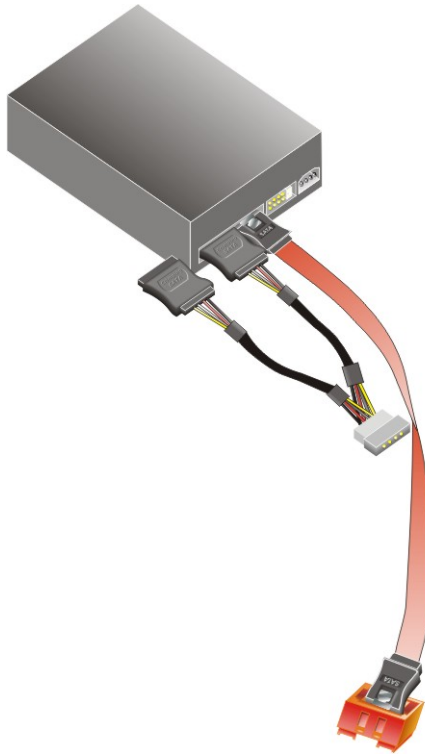

Figure 5-11: SATA Power Drive Connection
- Step 3:** Connect the cable to the SATA disk. Connect the connector on the other end of the cable to the connector at the back of the SATA drive. See **Figure 5-11**.
- Step 4:** Connect the SATA power cable. Connect the SATA power connector to the back of the SATA drive. See **Figure 5-11**.